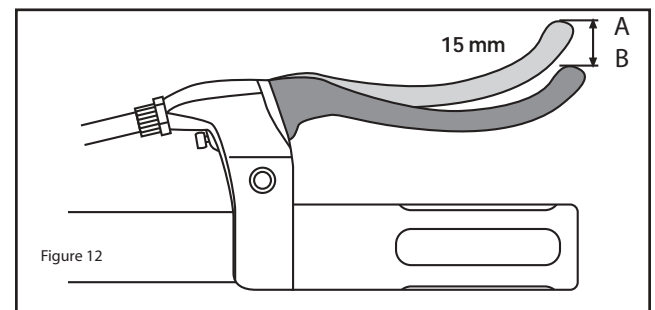

Figure 12
3. The amount of lever travel from A to B should be 15 mm / 0.59 in. (figure 12).